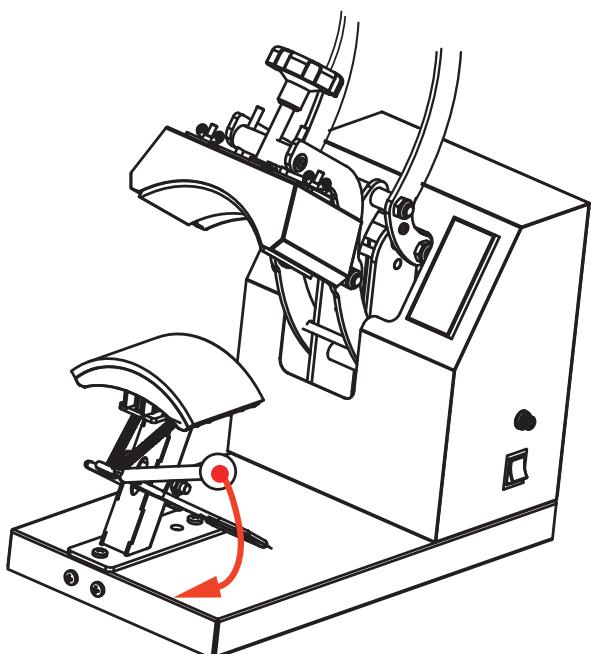
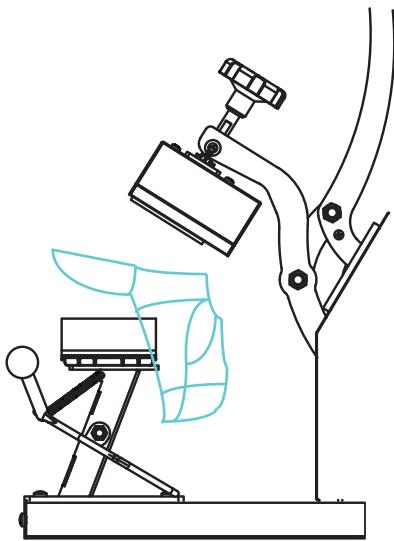

Figure 5
Figure 7
4.As shown in Figures 5 and 6,pull the“cap stretcher handle”following the direction of the arrow to lift the cap stretcher.Fit the cap to be processed onto the mould,release the “cap stretcher handle”,the cap will be flattened,as shown in Figure 7.